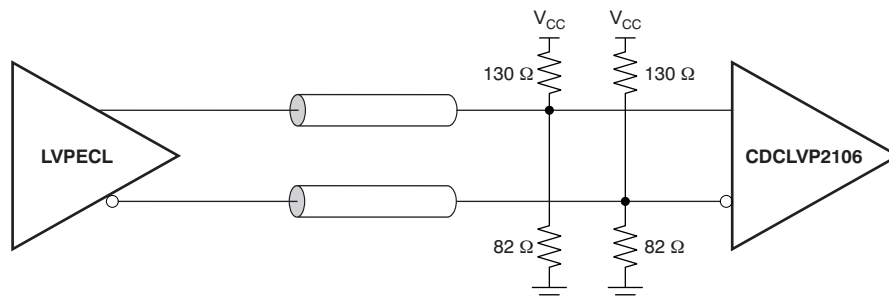
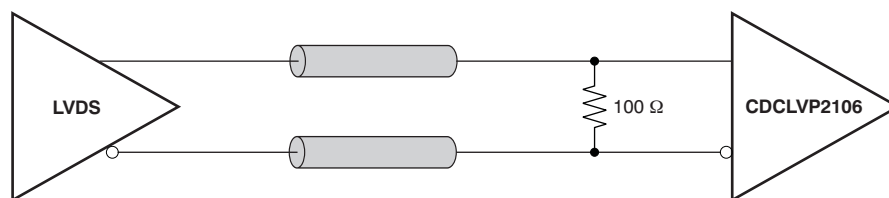
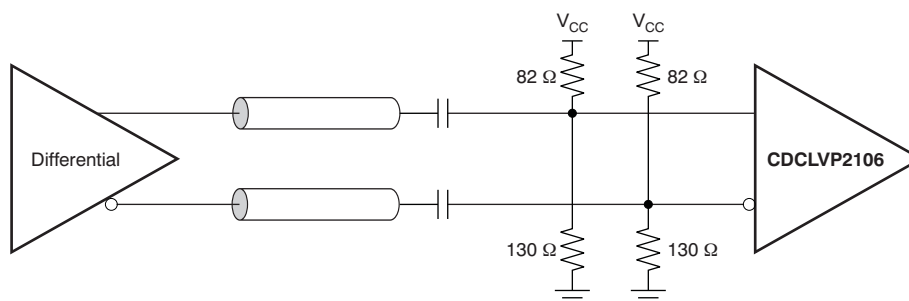

Figure 7. DC-Coupled LVPECL Input During Device Test
Figure 8. DC-Coupled LVDS Input During Device Test
Figure 9. AC-Coupled Differential Input to Device
(1) Figure 7 and Figure 8 show DC test setup. Figure 9 shows AC test setup.